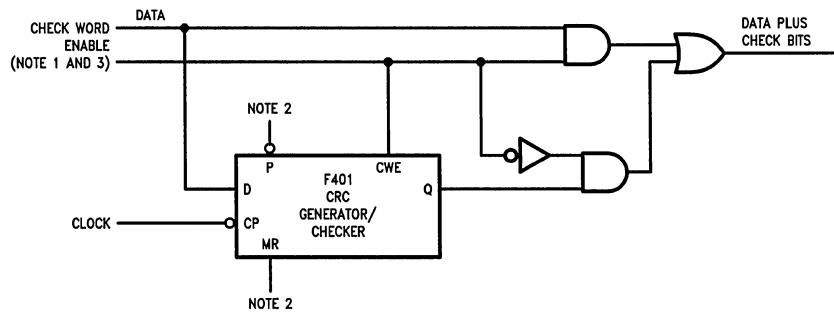

FIGURE 2. Check Word Generation
Clock input (\overline{CP}). This data is gated with the most significant output (Q) of the register, and controls the Exclusive OR gates (Figure 1). The Check Word Enable (CWE) must be held HIGH while the data is being entered. After the last data bit is entered, the CWE is brought LOW and the check bits are shifted out of the register and appended to the data bits using external gating (Figure 2).